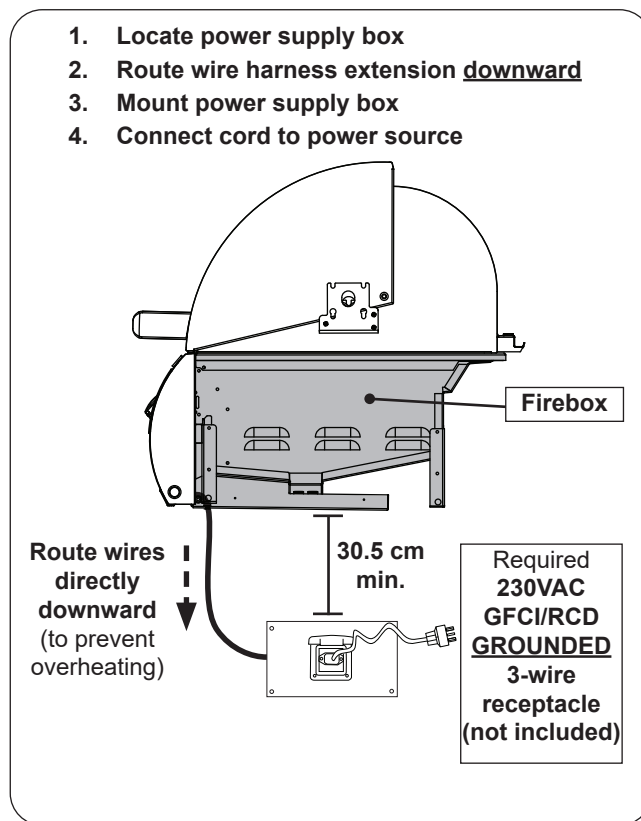

Fig. 24-1 Electrical installation
1. Route the power supply box below the control panel and directly downward. This will prevent overheating. **DO NOT** route the harness below the unit firebox. See Fig. 24-1.
- located at least **30.5 cm** below the bottom of the unit (see Fig. 24-1)
3. Connect the power cord to a **230VAC (6AMP minimum) GFCI/RCD GROUNDED 3-wire receptacle** (see Fig. 24-1). The GFCI/RCD receptacle must be a WEATHER-PROOF IN-USE COVERED RECEPTACLE.